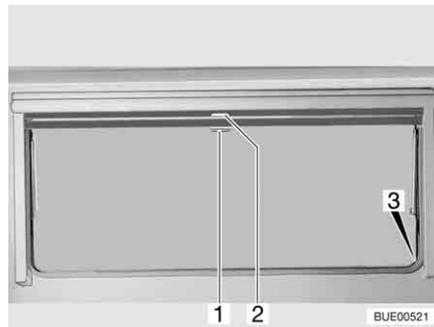

Fig. 55 Hinged window
- Pull blind at the handle (Fig. 55,2) downwards. If the blind is to be completely closed, it is suspended into the locking devices (Fig. 55,3) situated on both sides of the window frame.
- If the blind is completely closed: Press handle (Fig. 55,2) downwards and, at the same time, tilt it slightly inward. The blind can be taken out of the locking devices situated on both sides of the window frame.
- If the blind is in an intermediate position: Pull the handle (Fig. 55,2) slightly downwards until the locking device releases.
- Pull insect screen at the handle (Fig. 55,1) down and hang it into the locking devices (Fig. 55,3) situated on both sides of the window frame.
- Press handle (Fig. 55,1) downwards and, at the same time, tilt it slightly inward. The insect screen can be taken out of the locking devices situated on both sides of the window frame.